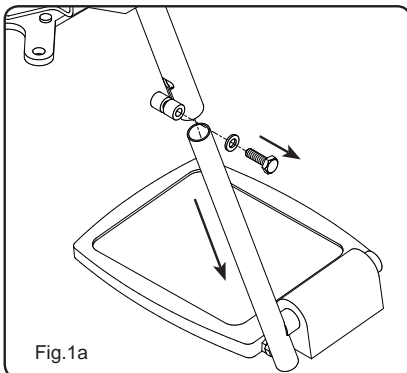

Fig.1a
- Loosen the bolt at the bottom of the footrest outer stem and slide the inner stem fully out (Fig.1a).